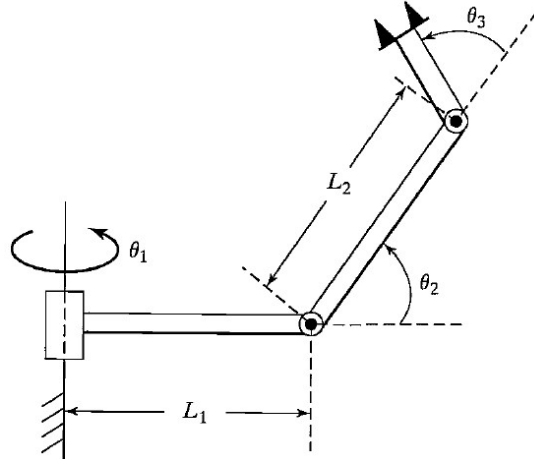

Fig. Q.4(b)
- Q.4(b) Analyze the inverse kinematics of the 3R non-planar manipulator shown in Fig.Q.4(b). [4] 2 4